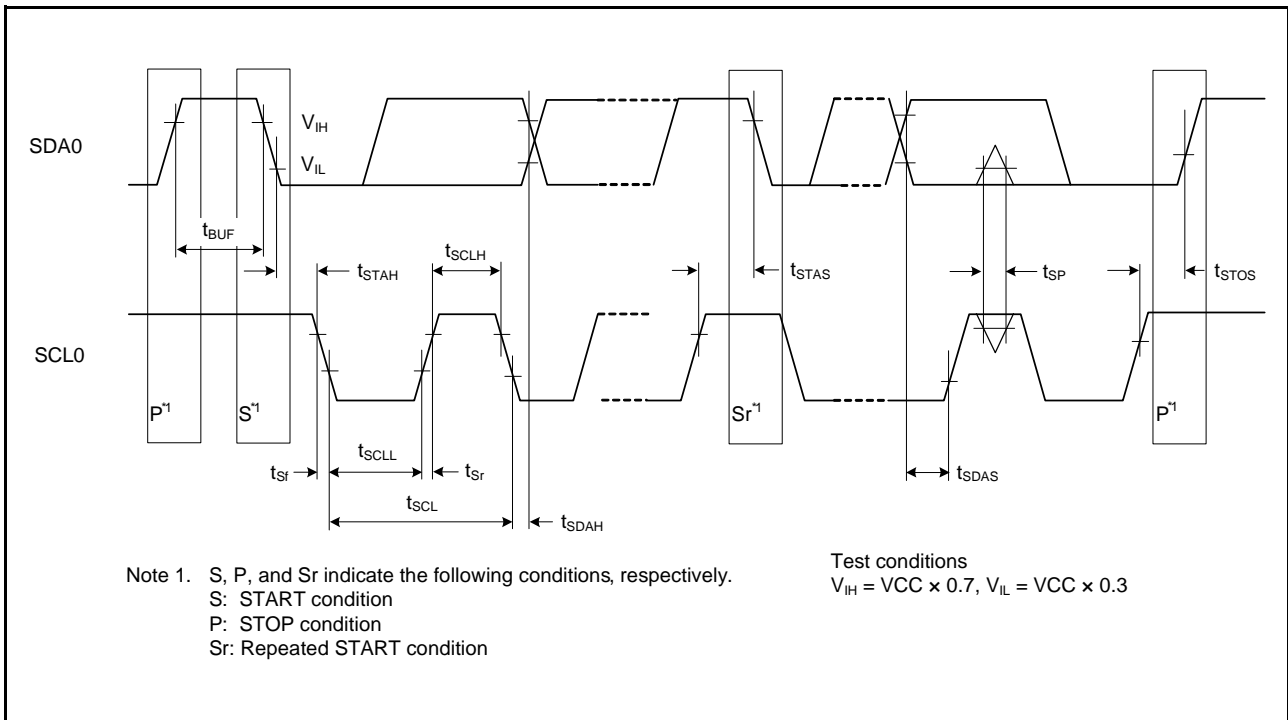

Figure 5.49 I2C Bus Interface Input/Output Timing and Simple I2C Bus Interface Input/Output Timing
| RIIC (Standard mode, SMBus) | SCL0 input cycle time | t_{SCL} | $6 (12) \times t_{IICcyc} + 1300$ | — | ns | Figure 5.49 |
| RIIC (Fast mode) | SCL0 input cycle time | t_{SCL} | $6 (12) \times t_{IICcyc} + 600$ | — | ns | Figure 5.49 |
| Simple I ² C (Standard mode) | SDA0 input rise time | t_{Sr} | — | 1000 | ns | Figure 5.49 |
| Simple I ² C (Fast mode) | SCL0, SDA0 input rise time | t_{Sr} | — | 300 | ns | Figure 5.49 |